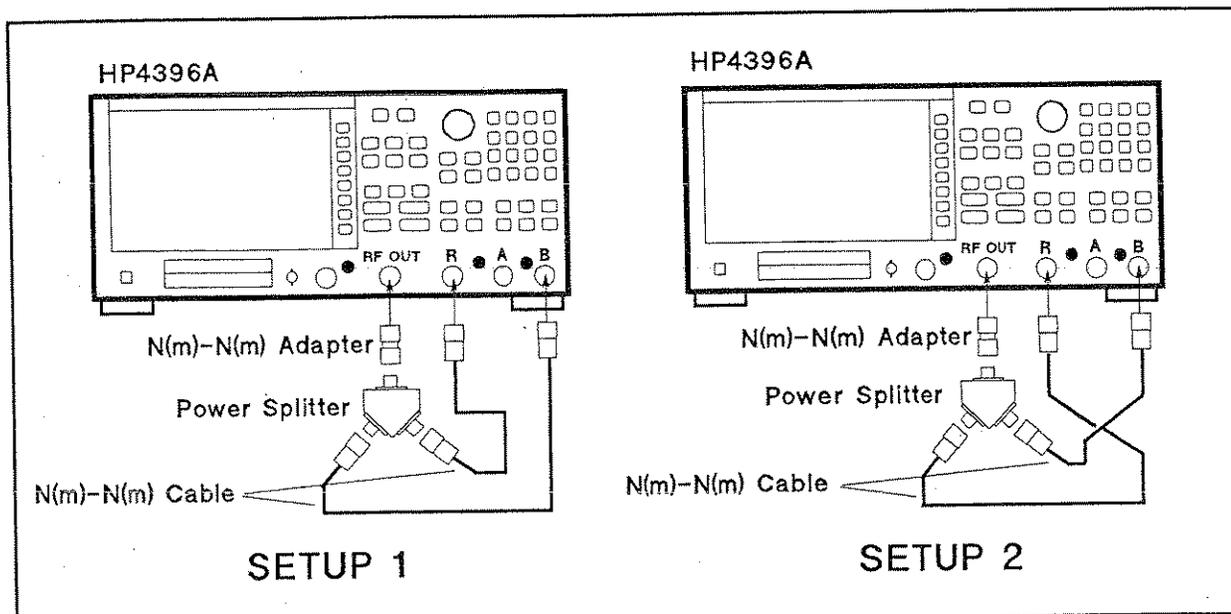

Figure 2-17. B/R Magnitude Ratio/Phase Frequency Response Test Setup
a. Connect the test equipment as shown in setup 1 of Figure 2-17.
e. Reverse the cable connections of the HP 4396A B and R inputs as shown in setup 2 of Figure 2-17.
o. Connect the test equipment as shown in setup 1 of Figure 2-17.